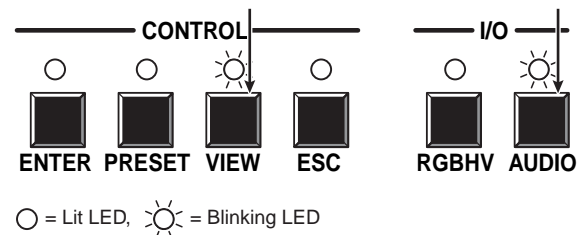

Figure 3-60 — RS-232/RS-422 and baud rate selection
3. To change a value, press and release the button that relates to the desired value (figure 3-60).